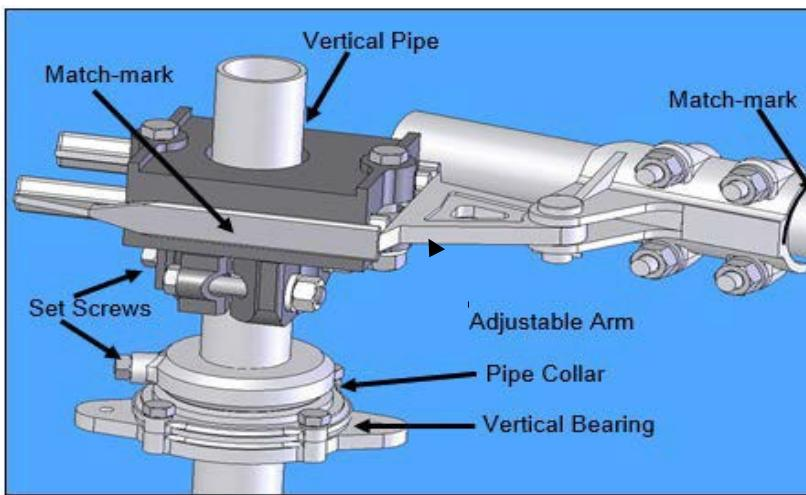

Figure 12: Typical Operating Arrangement
- 5.6 Refer to the Operating Mechanism drawing and install all mounting brackets, bearings, bushings, pipe clevises, switch operating device, adjustable arm, reach rod, and other necessary components. Refer to **Figure 12**. Do not connect the interphase pipe at this time.
- 6.1. The operating mechanism is intended to fully open and fully close the disconnect switch by rotating the vertical operating pipe  $180^\circ \pm$  using an operator (manual or motor). The interphase pipe controls the individual operation of each switch pole, using a push/pull control. The reach rod translates the motion of the vertical operating pipe to the interphase linkage. The adjustable arm (**Figure 12**) controls the total amount of switch operation available.